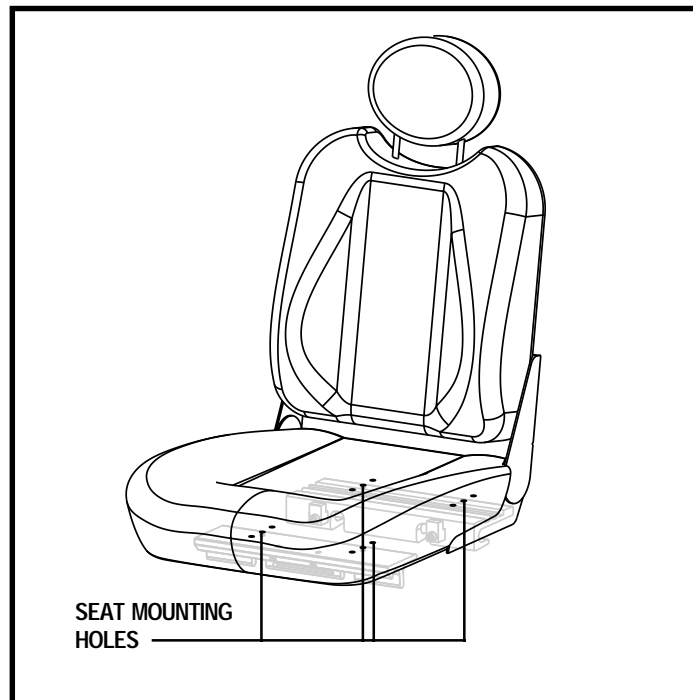

Figure 16. Seat Position Adjustment
7. Reposition the extrusions on a different set of mounting holes. You must move both extrusions the same number of holes either forward or rearward. See figure 16.